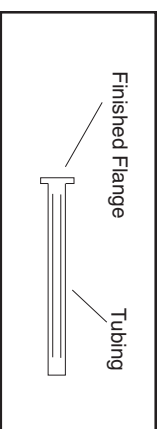

Figure 5
7. Your finished flange should look like Figure 5.